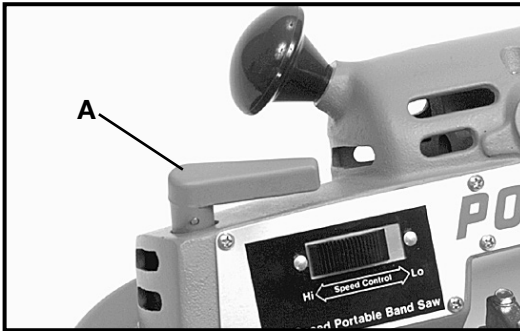
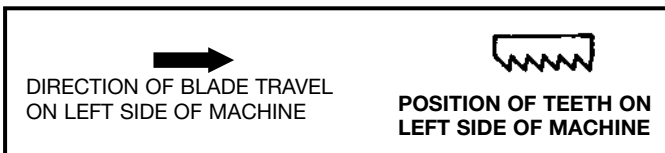

Fig. 3
Fig. 4
To remove the blade, turn handle (A), Fig. 3, clockwise to release tension on the saw blade. Remove the blade, first from the pulleys and then from the blade guide.
Before installing a blade, clean chips and wax, which may have accumulated on blade guides and pulley tires. To install the blade, insert blade in blade guides and then position on pulleys. **NOTE: MAKE SURE TEETH ON LEFT SIDE OF MACHINE POINT TOWARD THE REAR OF THE MACHINE.** See Fig. 4 and 5. Turn handle (A), Fig. 3, counterclockwise as far as it will go. This places tension on saw blade.